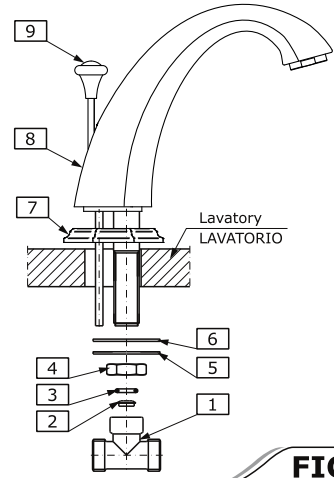

FIG. 4
- Insert spout base (7) and center over side hole of mounting surface. Insert spout shank through the central hole in the deck.
- Position spout (8) onto spout base (7). Place rubber washer (6), metal washer (5) and mounting nut (4) over the shank and tighten the underside of the deck.
- Insert nozzle (2) and seal o-ring (3) into T-connection (1).
- Screw on the T-connection (1) onto spout shank as shown in **fig. 4** firmly but do not overtighten.